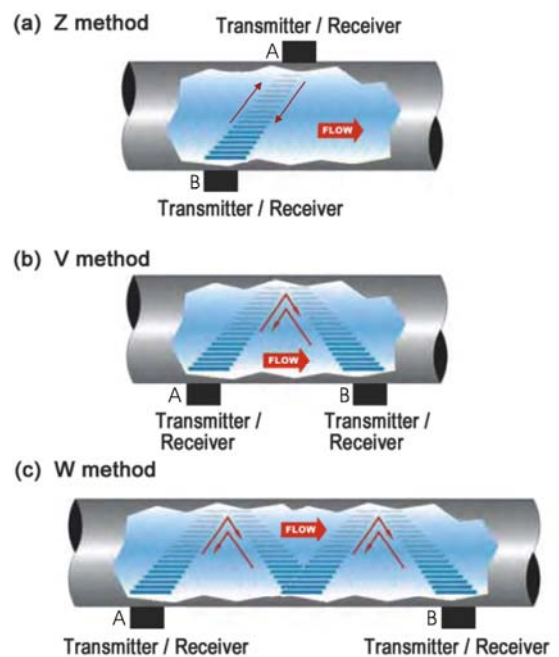

Figure 1
DMTF transit time flow meter utilizes two transducers that function as both ultrasonic transmitters and receivers. The transducers are clamped on the outside of a closed pipe at a specific distance from each other. The transducers can be mounted in V-method in which case the ultra sound transverses the pipe twice, or W-method in which case the ultra sound transverses the pipe four times, or in Z-method in which case the transducers are mounted on opposite sides of the pipe and the ultra sound transverses the pipe only once. The selection of mounting method depends on pipe and liquid characteristics. When the flow meter works, the two transducers transmits and receives ultrasonic signals amplified by multi beam which travels firstly downstream and then upstream (Figure 1). Because ultra sound travels faster downstream than upstream, there will be a difference of time of flight(Δt). When the flow is still, the time difference(Δt) is zero. Therefore, as long as we know the time of flight both downstream and upstream, we can work out the time difference, and then the flow velocity (V) and flow volume (Q) via the following formula.